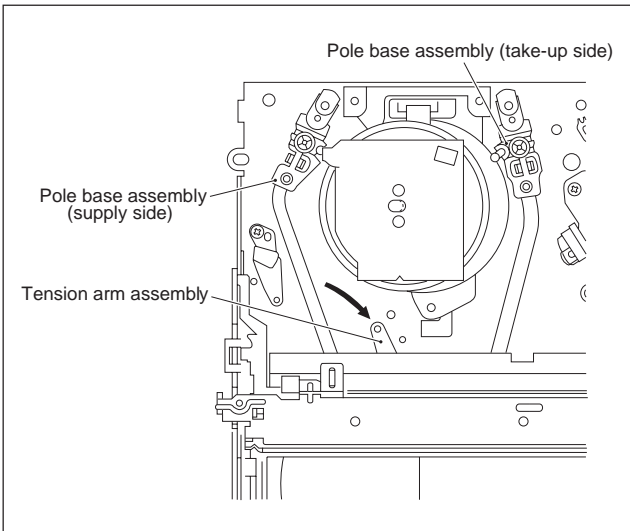

Fig.3-1-4c
- (1) Unplug the power cable and remove the top cover, front panel assembly and others so that the mechanism assembly is visible. (See SECTION 1 DISASSEMBLY.)
- (2) While keeping the tension arm assembly of the mechanism assembly free from tension, pull the tape on the pole base assembly (supply or take-up side) out of the guide roller. (See Fig.3-1-4c.)